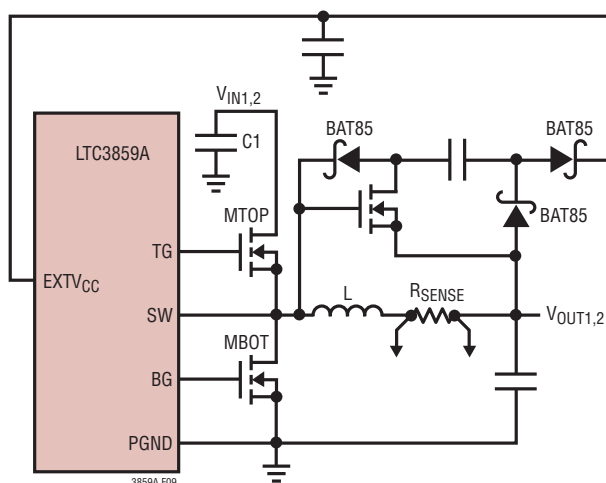

Figure 9. Capacitive Charge Pump for $EXTV_{CC}$
4. $EXTV_{CC}$ connected to an output-derived boost network off one of the buck regulators. For 3.3V and other low voltage buck regulators, efficiency gains can still be realized by connecting $EXTV_{CC}$ to an output-derived voltage that has been boosted to greater than 4.7V. This can be done with the capacitive charge pump shown in Figure 9. Ensure that $EXTV_{CC} < V_{IN}$.